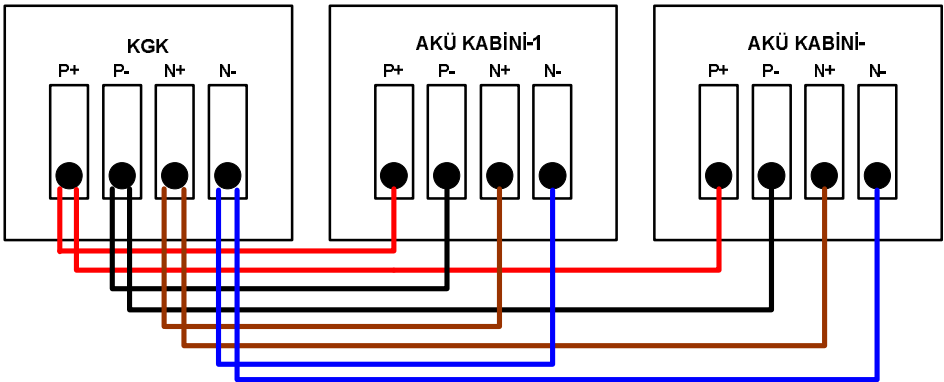

Figure-10 40/44 pcs two battery cabinets connection
- ! If the 40/44 pcs one battery cabinet is used (see. Figure-10), from UPS 'BATTERY P+' terminal to battery cabinet 'P+' terminal, from UPS 'BATTERY P-' terminal to battery cabinet 'P-' terminal, from UPS 'BATTERY N+' terminal to battery cabinet 'N+' terminal and from UPS 'BATTERY N-' terminal to battery cabinet 'N-' terminal are connected.